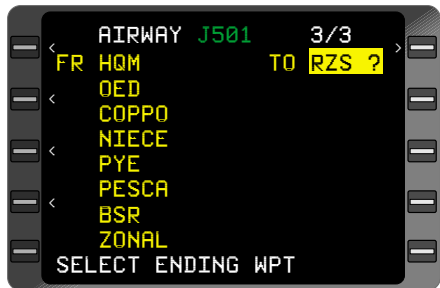

Figure 3-40
- c. **ENTER** Key - DEPRESS. (Figure 3-40)